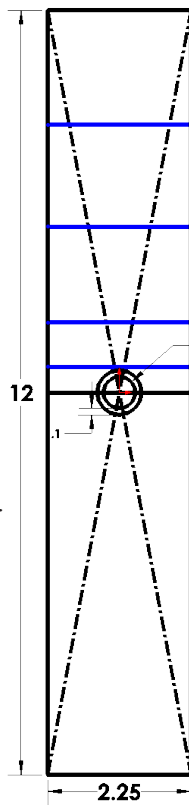

Fig. 6
Step 1. Click **Line**  (L) on the Sketch toolbar.
Step 2. Draw **5 horizontal lines** across sketch, **Fig. 6**. Start with line at Midpoint  of right vertical line. To terminate chain, double click back on the horizontal line you have just drawn. Start all lines on right vertical line and draw lines to left side. Later, we will convert the line thru Origin to construction line.
Step 3. Click **Smart Dimension**  (S) on the Sketch toolbar.